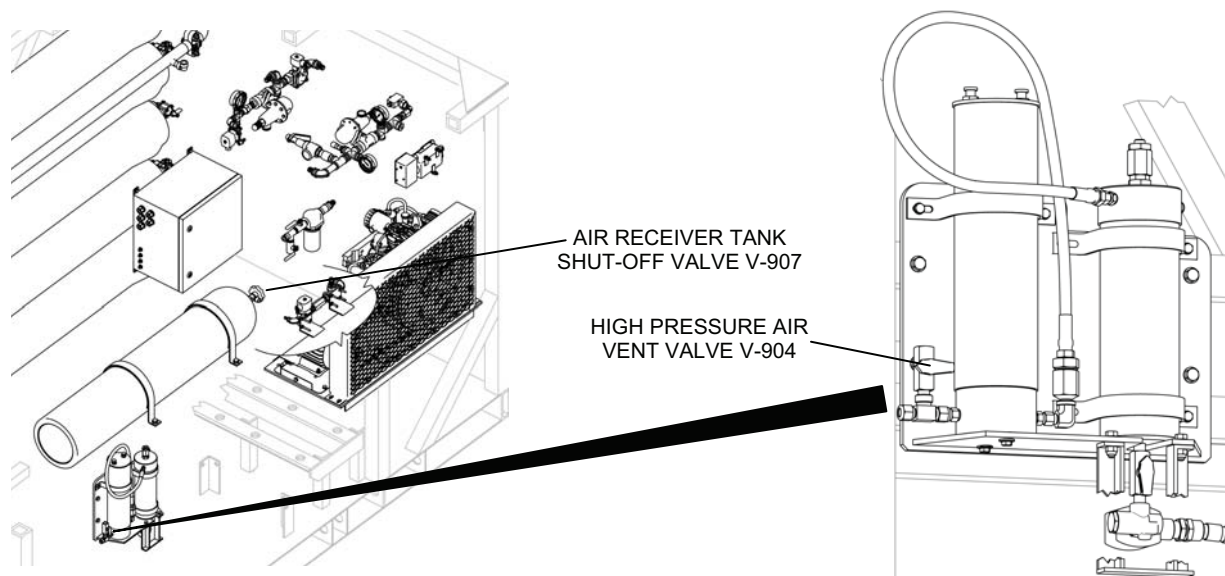

Figure 5. Valves for Bleeding the High Pressure Air System.
2. Bleed the high pressure air system as follows (see Figure 5 for valve location):